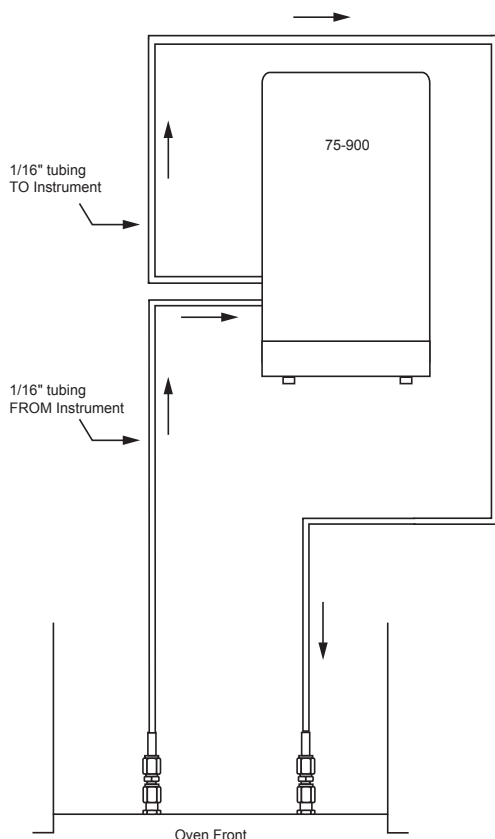

Figure 4:
- A. Instrument with Pre-column (Series 590 DID GC Systems 2, 3, 4, 5, & 9). Refer to Figure 4.